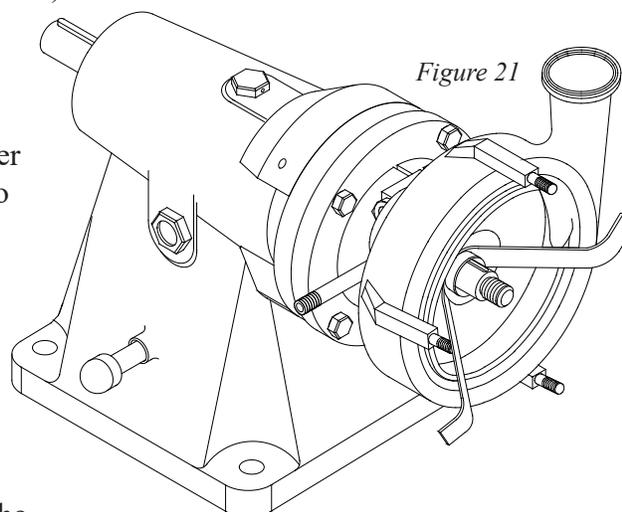

Figure 21
- h) Remove the rotating seal (37), seal washer (28) and o-ring (29) by gently placing the flat ends of two impeller pullers on either side of the rotating seal and carefully pulling (wiggling the seal ring side-to-side should aid removal) until the rotating seal face comes off the shaft (**Figure 21**). Discard the seal components after you remove them.